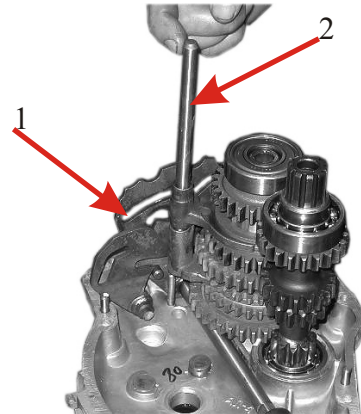

Fig. 51.
- Mount the shift forks, bring the fork lugs into the coupling slots, set the forks in neutral position and insert their pins onto the quadrant slots (Fig. 51, Pos.1);
- Mount the fork shaft (Fig.51, Pos. 2).